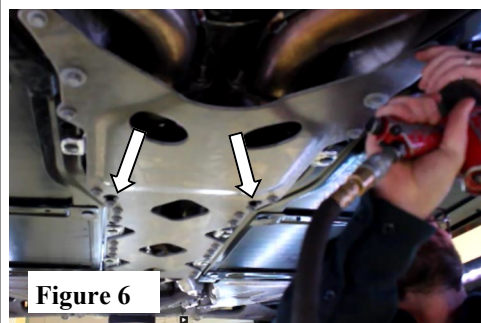

Figure 6
10. Loosen and remove bolts holding Tunnel Stiffening Brace using 13mm and 15mm sockets. *Note (2) keyhole-slots in the middle of the brace. Loosen (do not remove these bolts) and carefully slide brace rearwards and remove. Keep for reinstallation later.* (See Fig. 6)